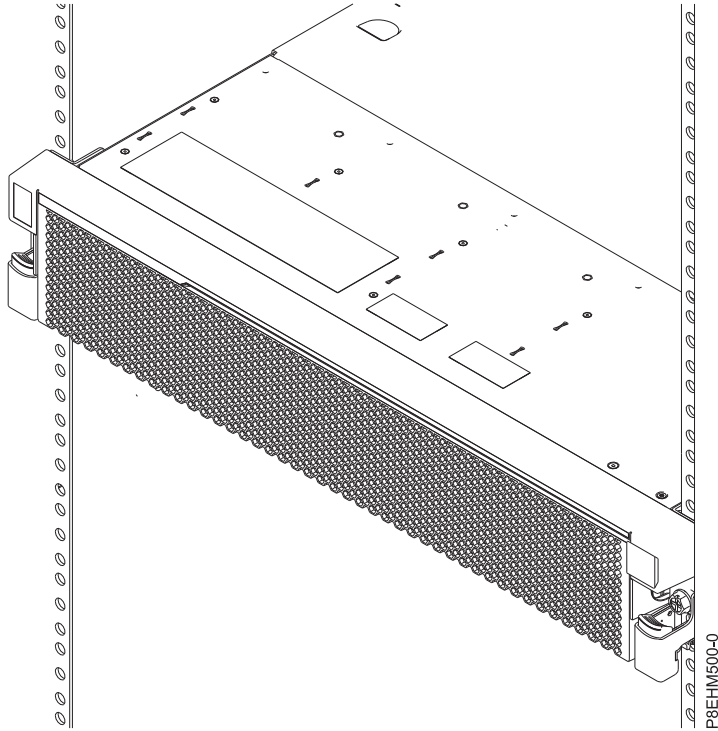

Figure 20. The server installed in the rack
6. Attach the front cover to the front of the system. See Figure 20 on page 17.